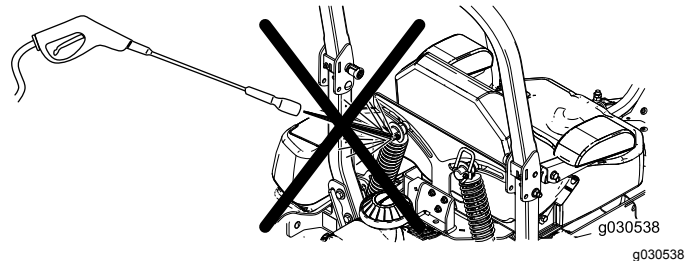

Figure 109
**Note:** Do not clean the shock assemblies with pressurized water (Figure 109).